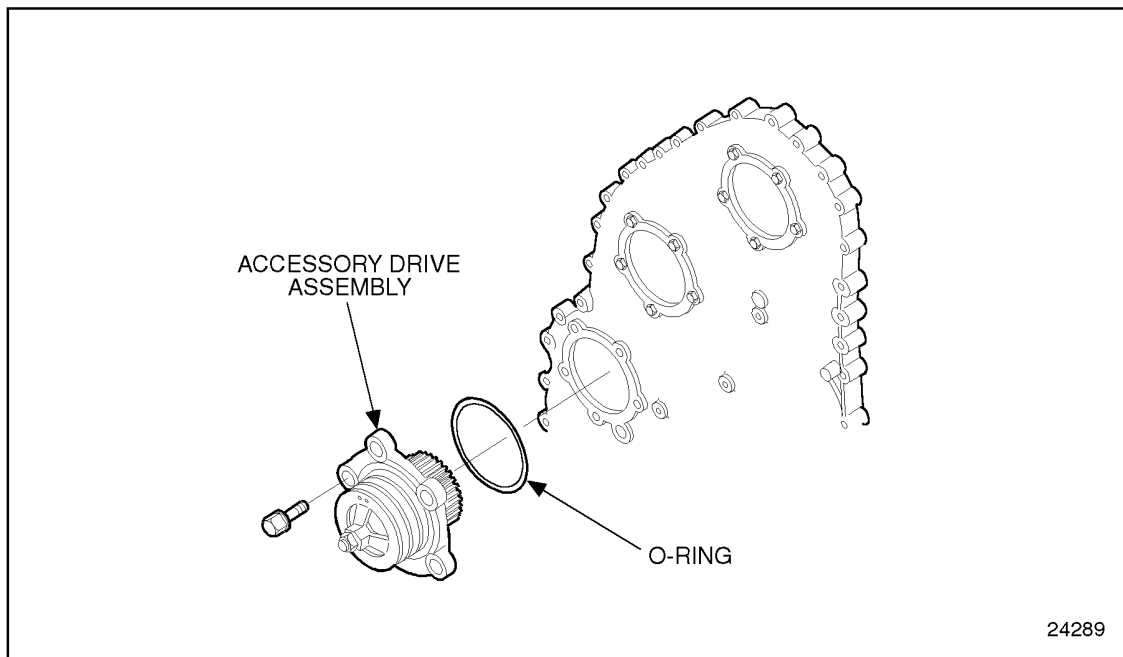

Figure 1-154 Accessory Drive Assembly
11. Remove the accessory drive assembly by pulling it straight out of the gear case cover to avoid damaging the rubber O-ring. See Figure 1-154.